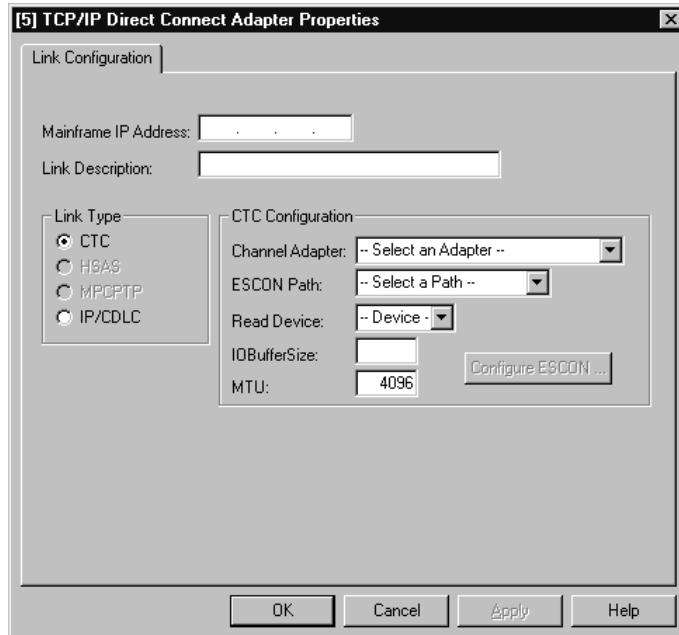

Figure 6-16. TCP/IP Direct Connect Adapter Properties
7. The TCP/IP Direct Connect Adapter Properties screen (Figure 6-16) will display. You must define the Link type and Link properties in order to complete the install. Please refer to the Link Configuration section later in this chapter.